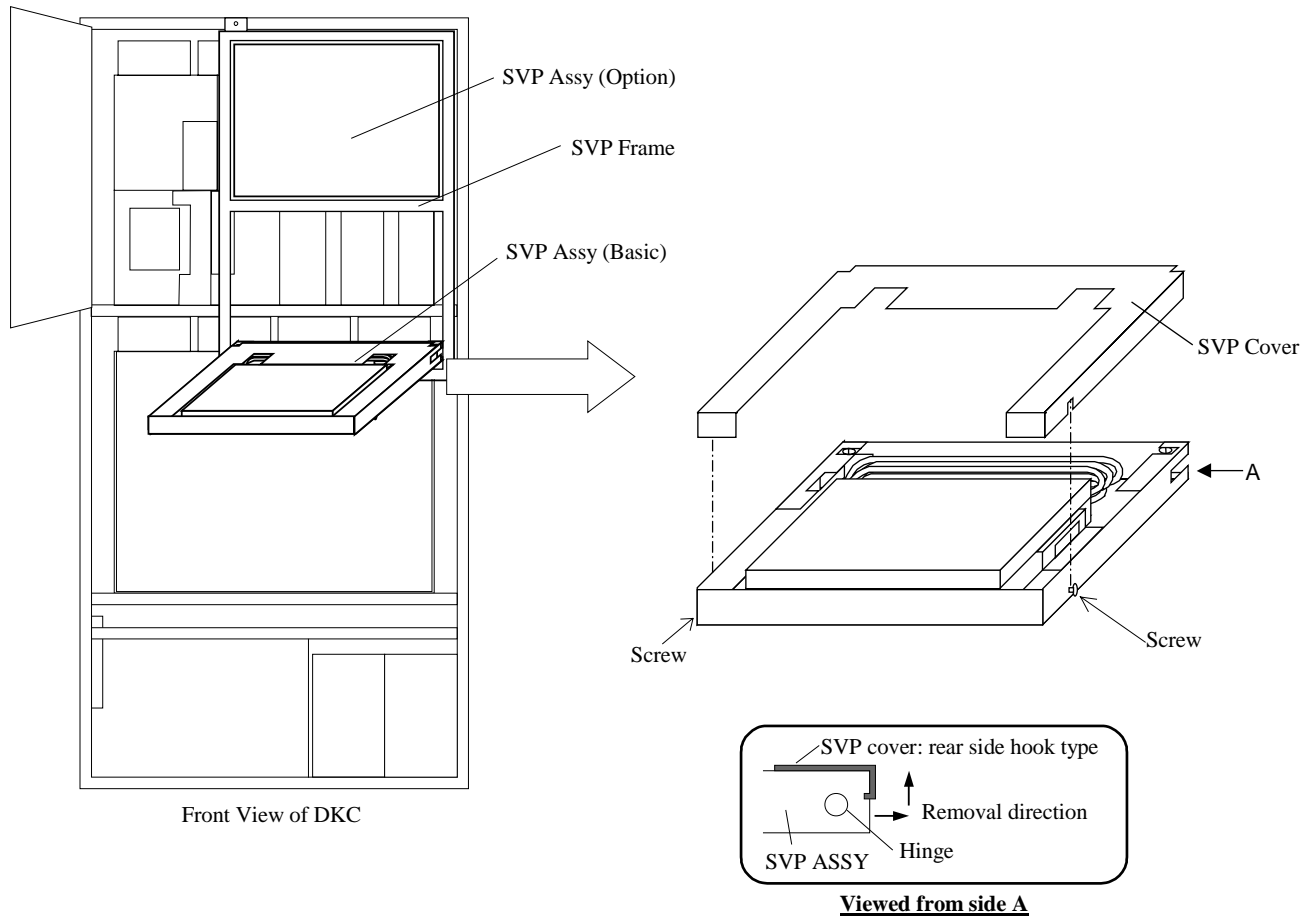

Fig. T7.1-11 Removing SVP cover
- Attach the SVP cover. (See Fig. T7.1-11.)
5. Loosen the screws and remove the SVP cover. (See Fig. T7.1-11 [REP03-520].)
6. Loosen the screws and remove the SVP cover. (See Fig. T7.1-11 [REP03-520].)